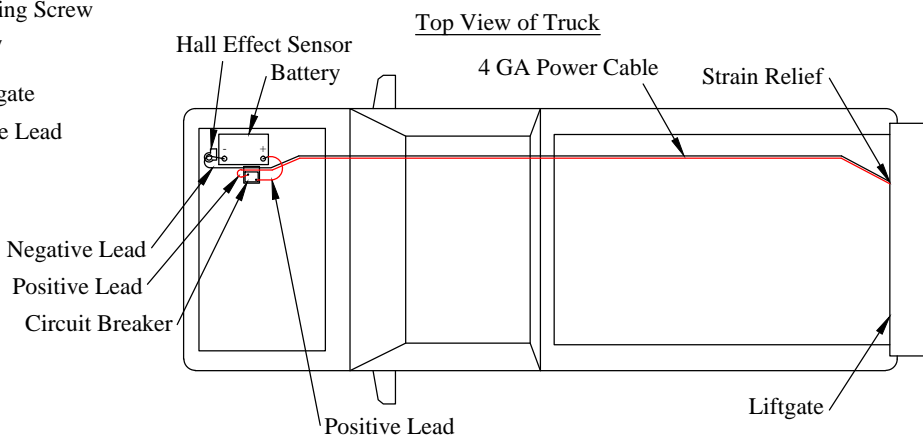

Figure 18: Electrical routing.
3. **Loosen** the strain relief on the back of the liftgate mainframe (Figure 18).
4. **Pull** the power cable (coiled up in the liftgate mainframe) carefully through the strain relief. Leave approximately two (2) inches of slack inside the liftgate mainframe (Figure 18).
6. **Route** the power cables along the frame (Figure 18) to the battery following the *Tommy Gate Recommended Electrical Wiring Guidelines*.